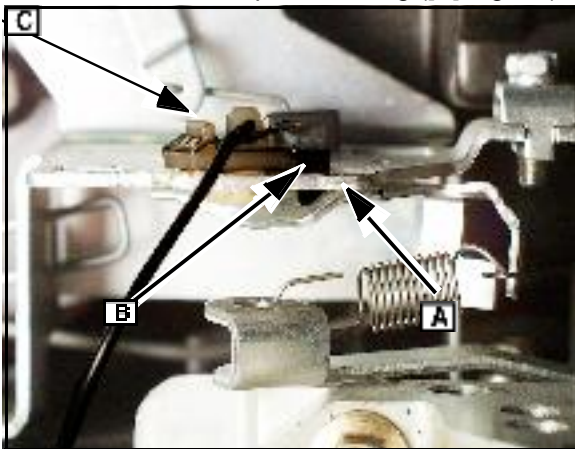

Fig. 37
1. Move speed control to **FAST**, then to **STOP**. The control lever tab (**A**) must contact the stop switch tang (**B**) Fig. 37).
5. Disconnect stop switch wire (**A**) Fig. 37) at ignition armature (**C**) Fig. 37).
6. Connect test probe to wire terminal (**B**) Fig. 37)
7. Connect one test lead to switch tang (**D**) Fig. 37) and the other lead to ignition stop wire.